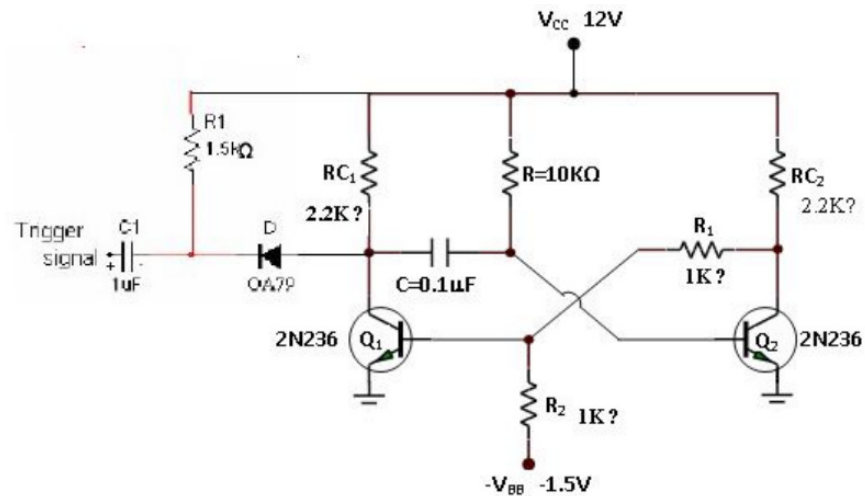

Fig. 3. Monostable Multivibrator: Circuit Diagram
1. Connect the whole circuit as shown in the circuit diagram of Figure 3.